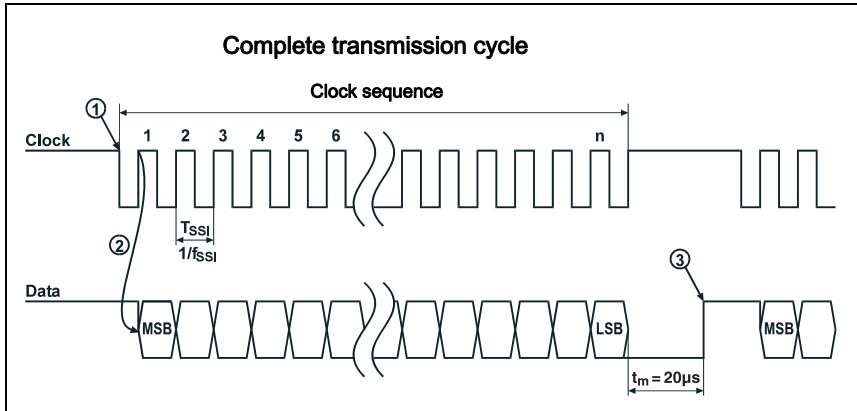

Bild 10.1: SSI data transmission sequence diagram
In the idle state, both the clock line as well as the data line are at HIGH level. At the first HIGH-LOW edge (point ① in Figure 10.1), the data in the internal register is stored. This ensures that the data are not changed during serial transfer of the value.
When the next clock signal change from LOW to HIGH level (point ② in Figure 10.1) occurs, transmission of the position value begins with the most significant bit (MSB). With each subsequent change of the clock signal from LOW to HIGH level, the next least-significant bit is transmitted on the data line. After the least significant bit (LSB) has been output, the clock signal switches from LOW to HIGH for one last time and the data line switches to LOW level (end of transmission).
A monoflop retriggered by the clock signal determines the time span before the SSI interface can be called for the next transmission. This results in the minimum pause time between two successive clock cycles. If time $t_m = 20\mu s$ has elapsed, the data line is returned to the quiescent level (HIGH) (point ③ in Figure 10.1). This signals completed data communication and that the device is again ready for transmission.